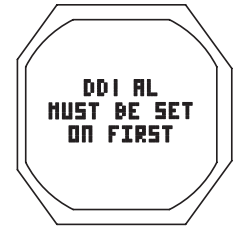

Fig. 132B - SET MESSAGE
** If this screen is accessed when DD1 is set Off, a message (Fig. 132B) will be displayed for 5 seconds, then operation will revert to the FREE Menu.